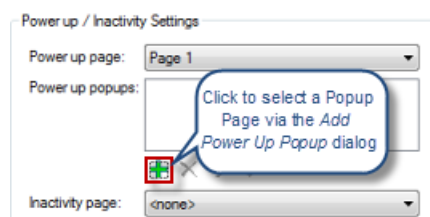

FIG. 69 Project Properties dialog (Panel Setup Information tab) - Add Power Up Popup
2. In the *Panel Setup Information* tab, click the green Plus sign icon below the *Power up Popups* field to invoke the *Add Power Up Popup* dialog, presenting a list of all popup pages in the active project (FIG. 69):